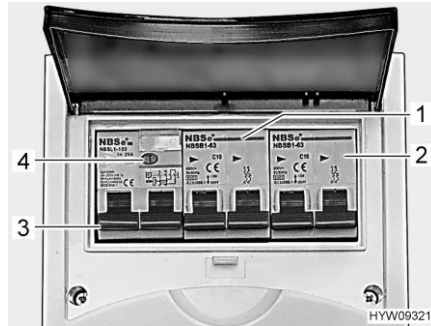

Fig. 165 Safety cutout and FI-switch (230 V fuse box)
A fault current protection switch (FI-switch) (Fig. 165,3) in the fuse box protects the complete vehicle from fault current (30 mA).
The downstream safety cut-out (10 A) (Fig. 165,1) secures the 230 V sockets, the transformer/rectifier, the auxiliary charging unit and the refrigerator.
For vehicles with special equipment, e.g. roof air conditioning unit, the device is protected by an additional safety cut-out (16 A) (Fig. 165,2).
- When the vehicle is connected to the 230 V power supply, press the test button (Fig. 165,4). The fault current protection switch (FI-switch) must be activated.